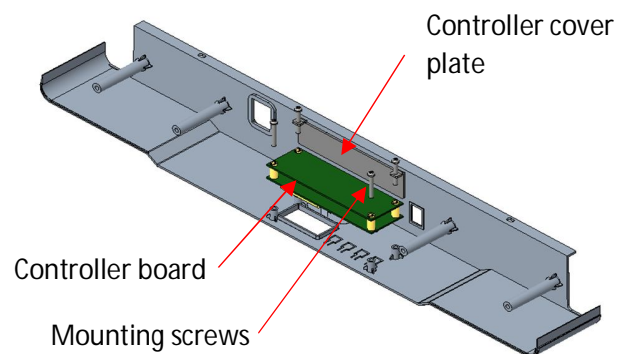

Fig. 22
3. Remove all connector from EVCO controller as shown in Fig 22.